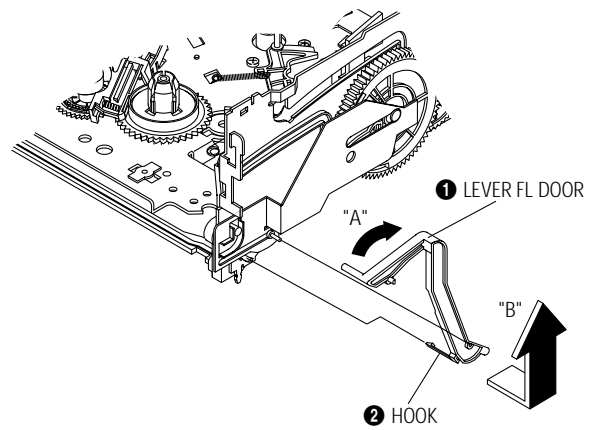

Fig. 4-9 Lever FL Door Removal
- 1) Remove the Lever FL Door. (Refer to Fig. 4-9)
- 2) Pull the Holder FL Cassette Ass'y ❶ to the eject position.
- 3) Pull the Holder FL Cassette Ass'y ❶ as grasping the Holder FL Cassette Ass'y ❶ and Lever FL Cassette-R ❷ in the same time to release hooking from Main Base until the Boss [A], [B] of Holder FL Cassette Ass'y ❶ is taken out from the Rail [C], [D].
- 4) Lift the Holder FL Cassette Ass'y ❶ in the direction of arrow "B" in this time, you have to grasp the Lever FL Cassette-R ❷ continuously until the Holder FL Cassette Ass'y ❶ is taken out completely.
**Note** : Be sure to insert Lever FL Cassette-R ❷ in the direction of "A" to prevent separation and breakage of the Lever FL Cassette-R ❷ at disassembling and reassembling.